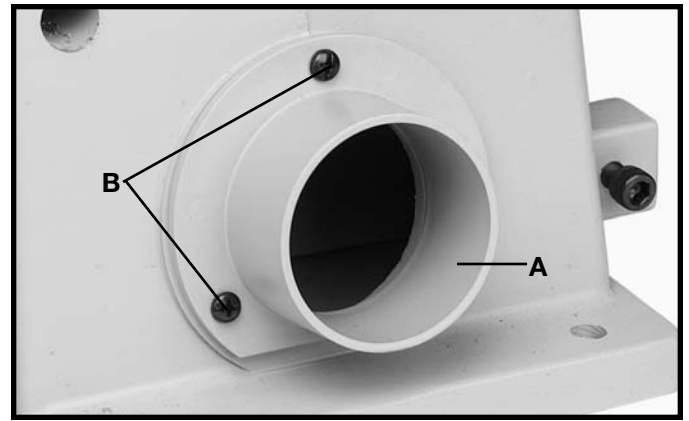

Fig. 13
1. Fasten dust spout (A) Fig. 13, to sander base using the three 3/8" (10mm) long pan head screws, two of which are shown at (B), and flat washers supplied.